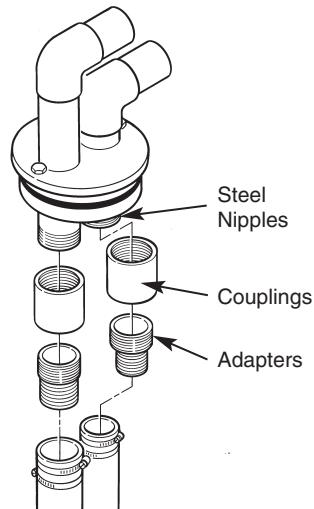

Figure 9
- Use pipe couplings and adapters to connect the nipples to the plastic pipe in the well (See Figure 9). Teflon tape all threaded joints to prevent leaks.